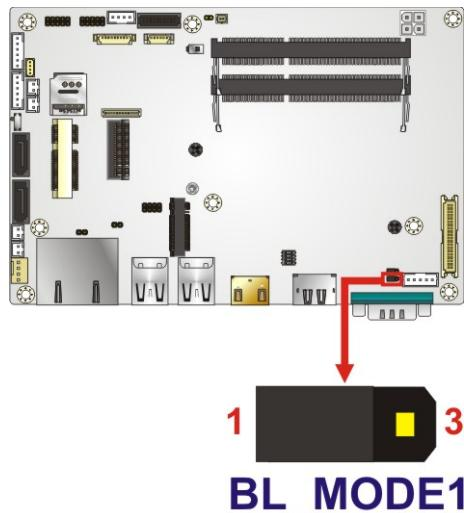

Figure 4-12: Backlight Mode Select Jumper Location
- Jumper Location:** See Figure 4-12